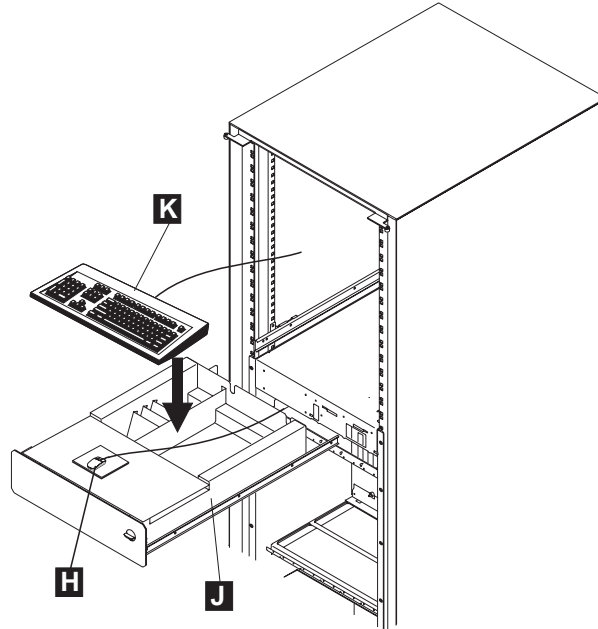

Figure 1-4. Keyboard Installation in 37 U Rack
1. ____ Unpack the keyboard and the mouse, open the service drawer **J**, and install the keyboard **K** in the drawer as shown in Figure 1-4 put the mouse **H** on the plate located in front of the keyboard.